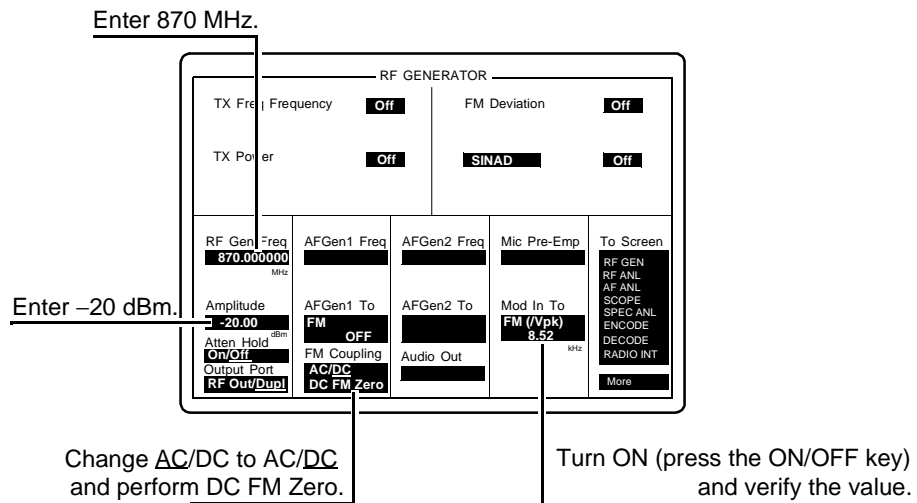

Figure 60
- a. Select **RF GEN** from the **To Screen** menu. The RF GENERATOR screen appears, see figure 60.